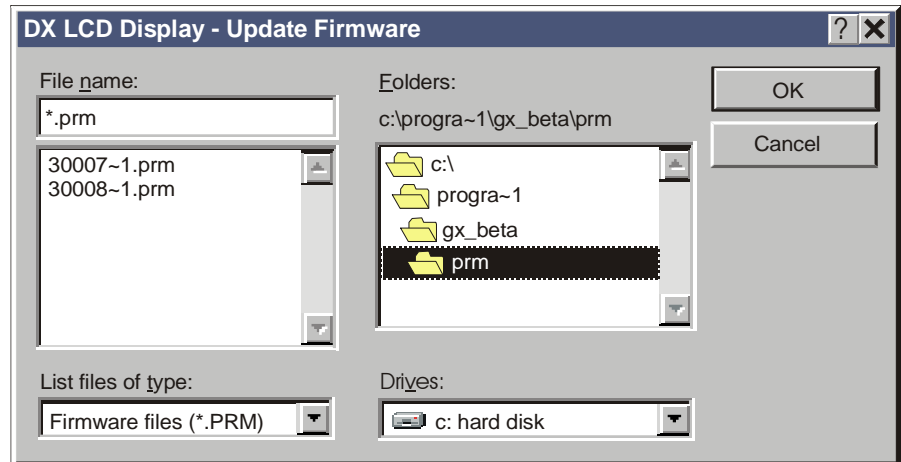

Figure C-1: Update Firmware Dialog Box
1. On the DX LCD Display menu, click Update Firmware. The DX LCD Display Update Firmware dialog box appears (Figure C-1).